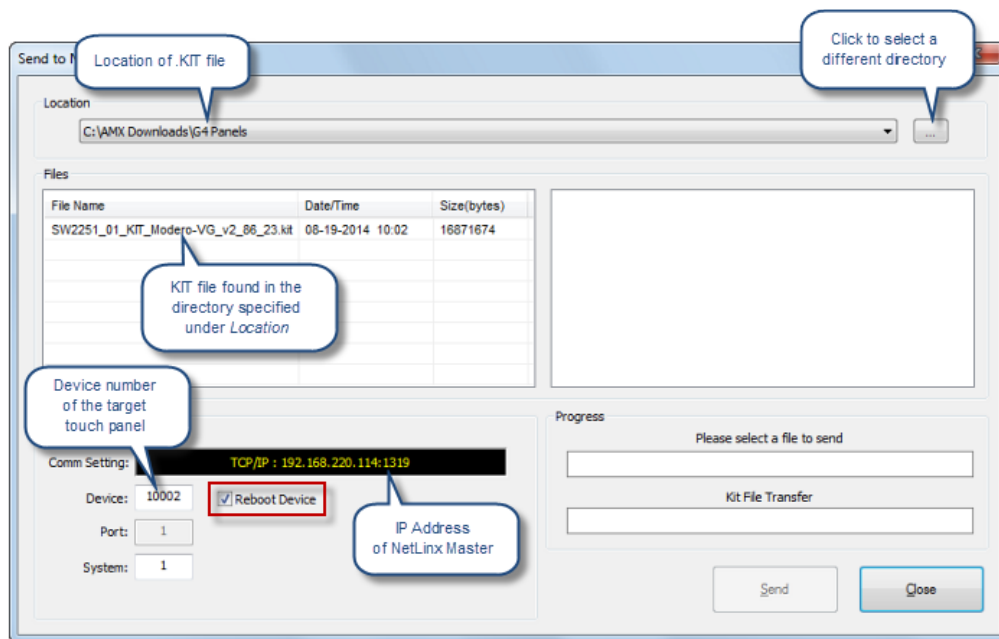

FIG. 66 NetLinX Studio - Send to NetLinX Device dialog
2. Right-click on the target panel and select **Firmware Transfer** to open the *Send to NetLinx Device* dialog. Alternatively, select **Tools > Firmware Transfers > Send To NetLinx Device** to open this dialog (FIG. 66):